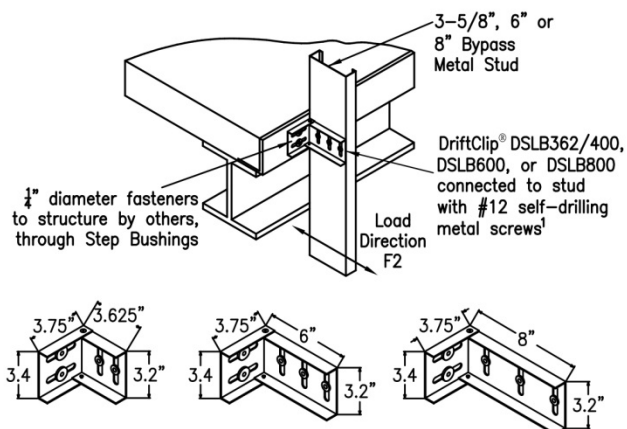

Figure 6 – DriftClip® DSLB362/400, DSLB600 and DSLB800
3.3.2 DriftClip® DSLB: DriftClip® DSLB362/400, 600 and 800 are L-shaped angles that connect $3\frac{5}{8}$ - or 4-, 6- and 8-inch-deep (92 or 102, 152, and 203 mm) exterior curtain wall steel studs, respectively, to a concrete floor slab's pour stop angle while allowing a maximum of 2 inches (51 mm) of vertical and horizontal movement between exterior wall elements and the primary structure. The minimum base-metal thickness of the clips is 0.0966 inch (2.5 mm). The leg which matches the wall depth and is fastened to the curtain wall stud has two or three slots parallel to the heel of the angle, each $\frac{3}{8}$ inch (9.5 mm) wide by $2\frac{3}{8}$ inches (60 mm) long with a bushing designed for #12 self-drilling/self-tapping steel screws to be installed in the centers of the slots. The $3\frac{3}{4}$ inches (95 mm) leg, which is fastened to the structure, has bushings designed for $\frac{1}{4}$ inch diameter (6.4 mm) fasteners to be installed in the centers of each slot. Refer to Figure 6 for overall dimensions of each DriftClip DSLB connector and a typical installation detail.